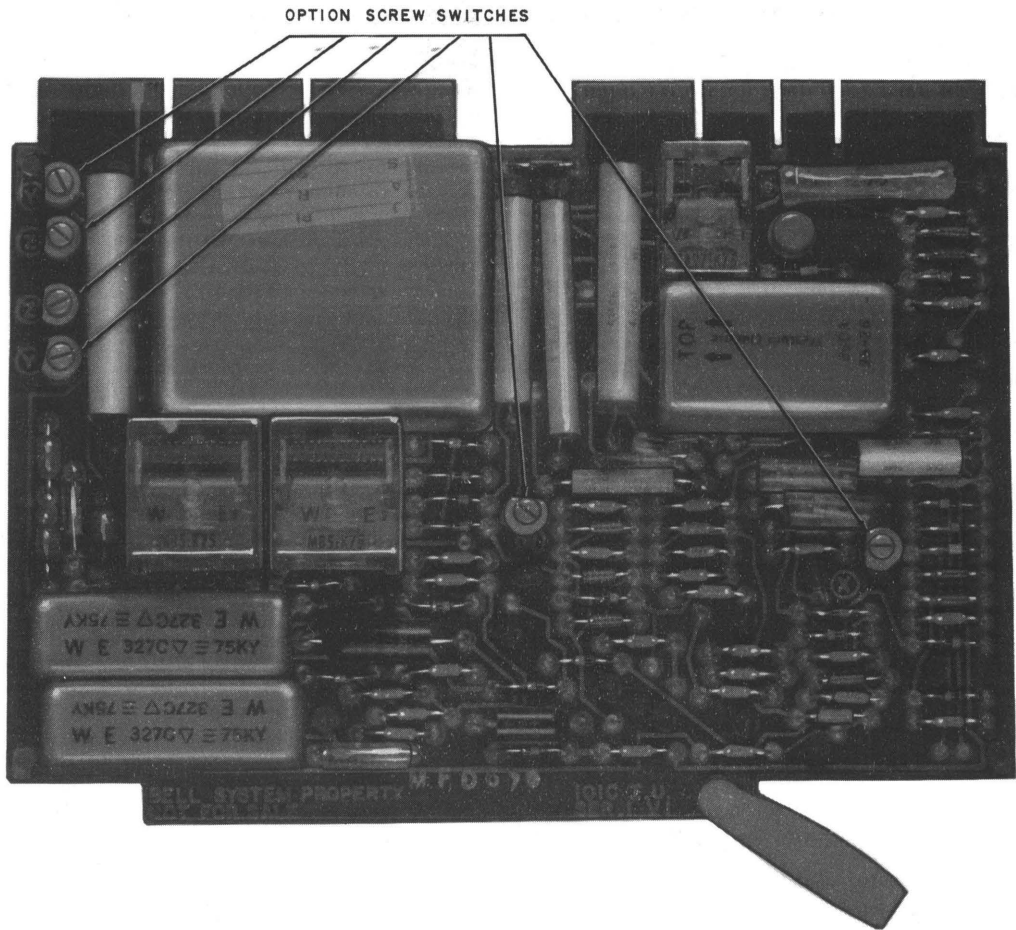

Fig. 1—101C IU
1.04 The 101C IU (Fig. 1) is an improved version of the 101B (MD) (Fig. 2) and is the preferred unit for new installations and replacements. Existing installations with 101A (MD) and 101B (MD) IUs may be encountered in the field; do not replace these units unless they are defective. Furthermore, available stock of these MD IUs should be used if possible. Refer to Table A for a summary of the applications and limitations of the three 101-type IUs.
- Unit, Interconnecting, 101C (one per CO trunk) (Fig. 1).